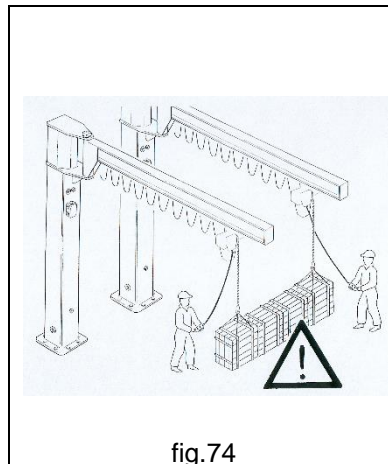

fig.74
- **NEVER** use two cranes at the same time to lift the same load (fig.74).